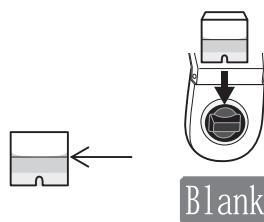

Fig.1
3. Insert the cell filled with the pretreated sample (cooled down till the room temperature 20°C) into the cell box. Press <Blank>. (Fig.1)